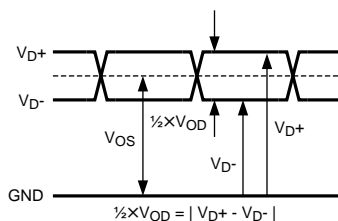

Figure 9-1. LVDS Output Signal Levels
**LVDS OUTPUT OFFSET VOLTAGE ( $V_{OS}$ )** is the midpoint between the D+ and D- pins output voltage with respect to ground; i.e.,  $[(V_{D+}) + (V_{D-})]/2$ . See Figure 9-1.